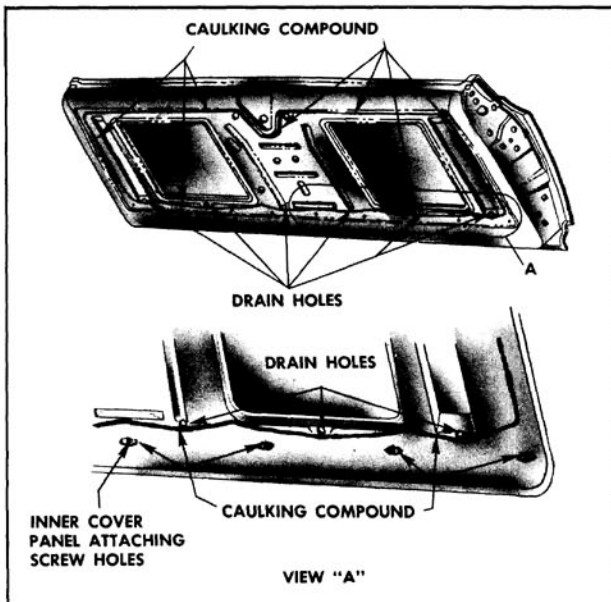

Fig. 16-473 Tailgate Inner Panel Sealing
3. Apply a bead of body caulking compound (approximately 3/16" diameter) to tailgate inner panel. (Fig. 16-473)
Also apply body caulking compound over each of the inner cover panel attaching screw holes across the bottom of the tailgate. (Fig. 16-473)